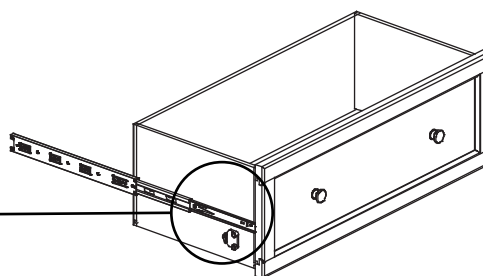

Fig. 5
5. If you need to remove your drawers, pull up on the left Drawer Release Lever while pushing down on the right Drawer Release Lever and pull out the drawer. See Figures 5 and 5a. Note where each drawer came from to make sure you place them back into their correct positions.